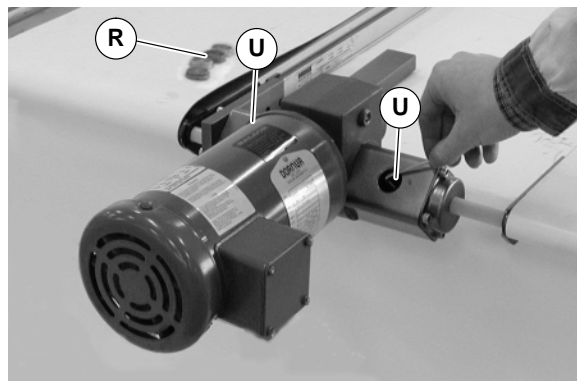

Figure 23
17. Tighten coupling hex shaft set screws (U of Figure 23). Replace inspection plugs (R).